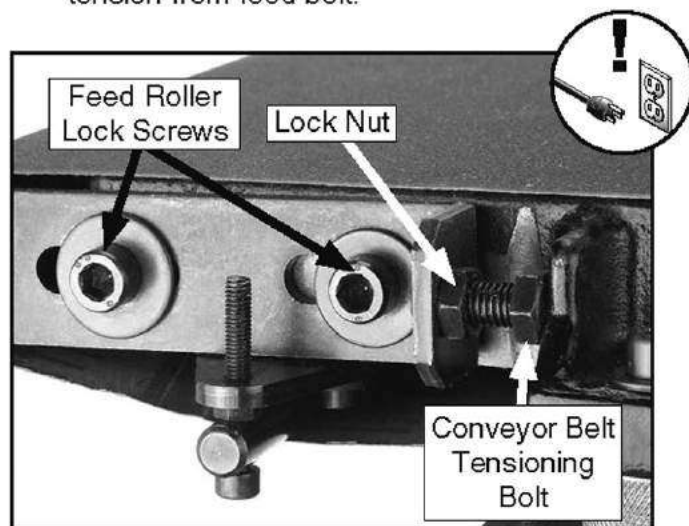

Figure 41. Conveyor belt tensioning controls.
2. Use a permanent marker to mark the front of the feed belt tensioning bolt (see **Figure 41**) on both sides. This step will aid you in returning the bolts to their original position, reducing the amount of tracking necessary.
3. Loosen lock nuts shown in **Figure 41**. Turn both of the feed belt adjustment bolts counterclockwise one full turn at a time to release tension from feed belt.